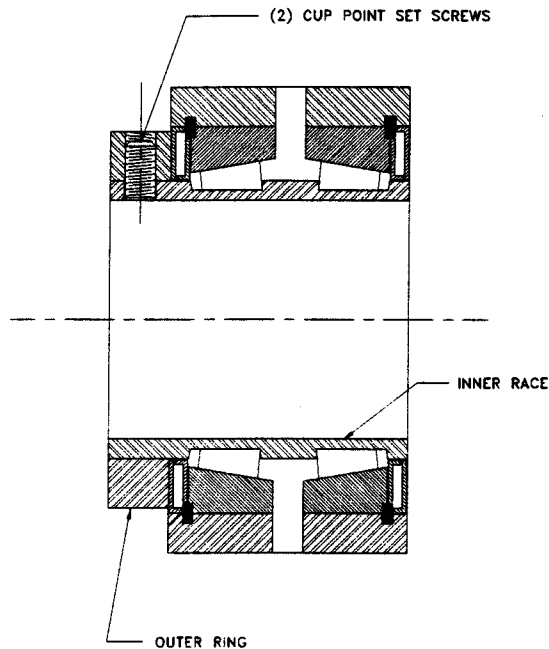

FIG. 6
Each bearing is equipped with two (2) 3/8" X 3/4" long cup point socket set screws. Their normal purpose is to lock the bearing to the shaft. In this application, the Adjusting Nut holds the rotor shaft in position and when the clearances are changed it is important that the shaft is free to move laterally in the bearings. **DO NOT TIGHTEN THESE SET SCREWS.** As a precaution, the set screws have been turned upside down so they can't be tightened against the shaft. Their only purpose now is to hold the outer ring in place on the inner race (see Fig. 6).